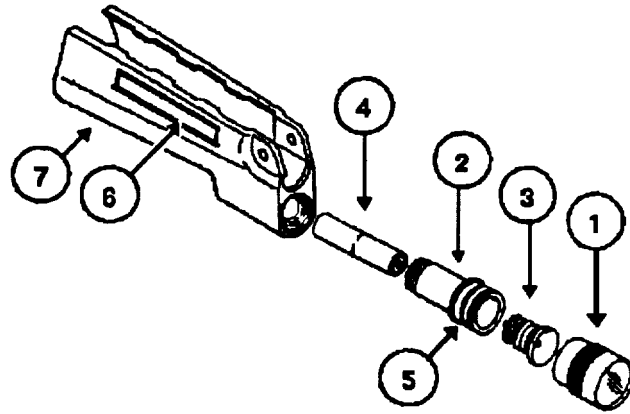
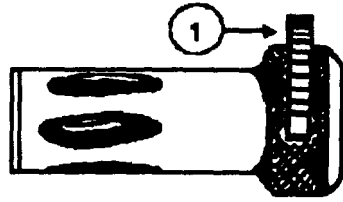

Figure 3-6. Disassembled Handguard And Tactical Light Assembly
Figure 3-7. Flash Suppressor
- c. Remove the flash suppressor by rotating the locking lever (1), Figure 3-7 on page 3-28, against spring tension, off the engagement pin in the slot and then lifting it out of the slot. Slightly rotate the flash suppressor around the three lugs and remove it from the muzzle.
a. Unscrew the bezel (1), Figure 3-6, from the lamp module (2) and remove the lamp assembly (3). It may be necessary to first remove the flash suppressor. If so, depress and rotate the locking latch (1), Figure 3-7, out of its recess. Lift the flash suppressor off the muzzle.
c. Slide the battery (4) out of the lamp module. Remove "O" ring (5), if unserviceable. The rubber covered pressure switch (6), is permanently attached to handguard (7). If required, unscrew the lamp module from the handguard.
- a. Reassemble by screwing the lamp module (2), Figure 3-6 on page 3-19, into the handguard (7). Replace the O ring (5), if required. Slide the battery (4) into the lamp module.
- b. Screw bulb into the lamp assembly (3) and place it over the lamp module.
- c. Screw the bezel (1) onto the lamp module.
b. Attach the flash suppressor by depressing and lifting the locking latch (1), Figure 3-7, away from the body of the flash suppressor. Place the flash suppressor fully over the muzzle and its three lugs. Reengage the notch on the locking lever securely on the engagement pin located inside the slot in the body of the flash suppressor.